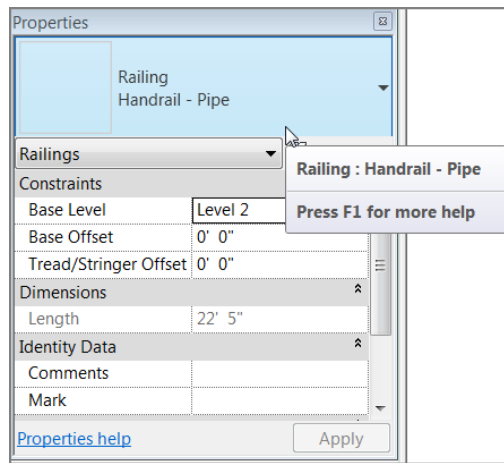

FIGURE 10.49: Setting the landing handrail type
2. In the Type Selector, change the type to Handrail - Pipe, as shown in Figure 10.49.